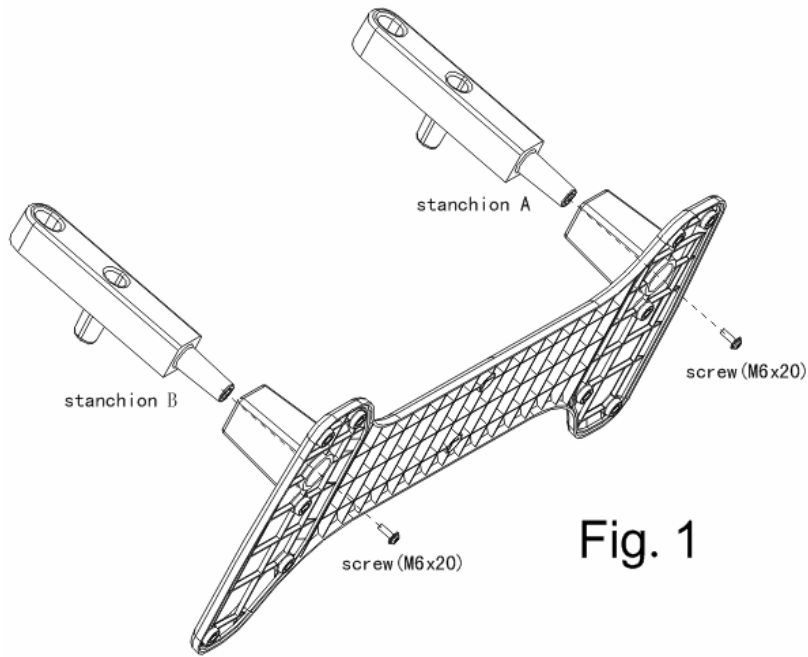

Fig. 1
2. Fix stanchion A and stanchion B onto the base subassembly with two screws (M6x20) as Fig.1, turn the screws to tighten it.